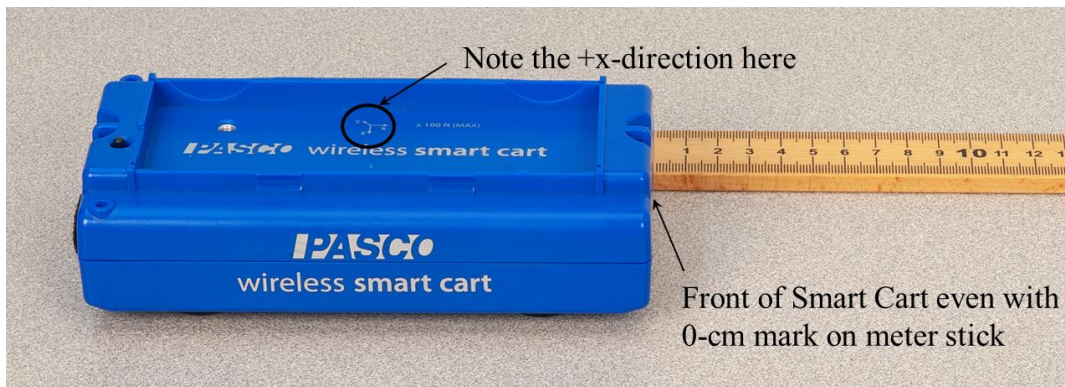

Figure 1: Smart Cart and meter stick
2. Set the Smart Cart on a flat tabletop with the front of the smart cart even with the 0-cm mark on the meter stick as shown in Figure 1. The cart’s motion will be parallel to the meter stick. The +x-direction printed on the top of the cart, indicated in Figure 1, defines the positive direction for the cart’s motion.